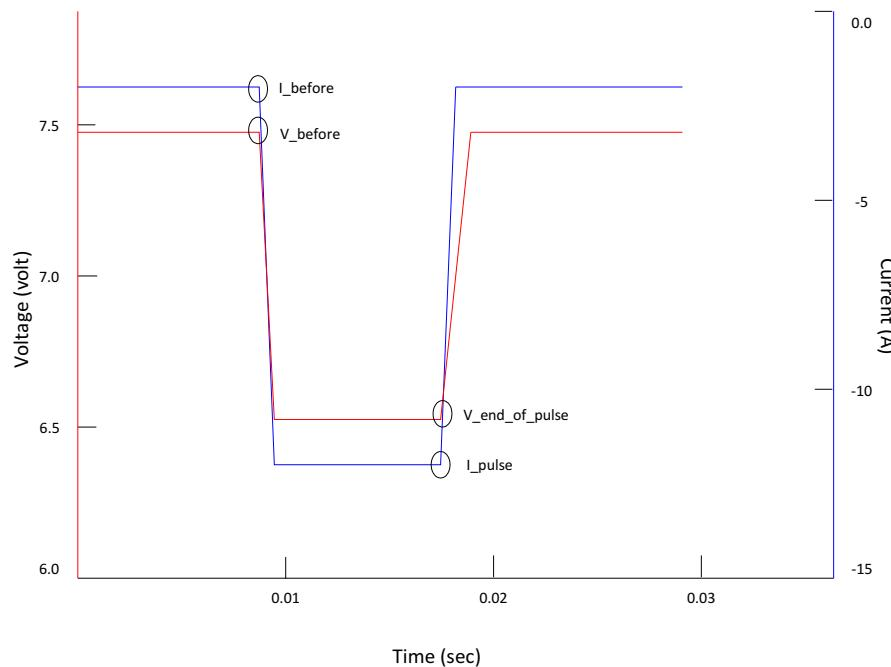

Figure 7-3. Rhf Resistance Reference Waveform
- Perform at 4C, 10-ms pulse discharge test, and collect 1 ms or higher sampled data with oscilloscope (see Figure 7-3).